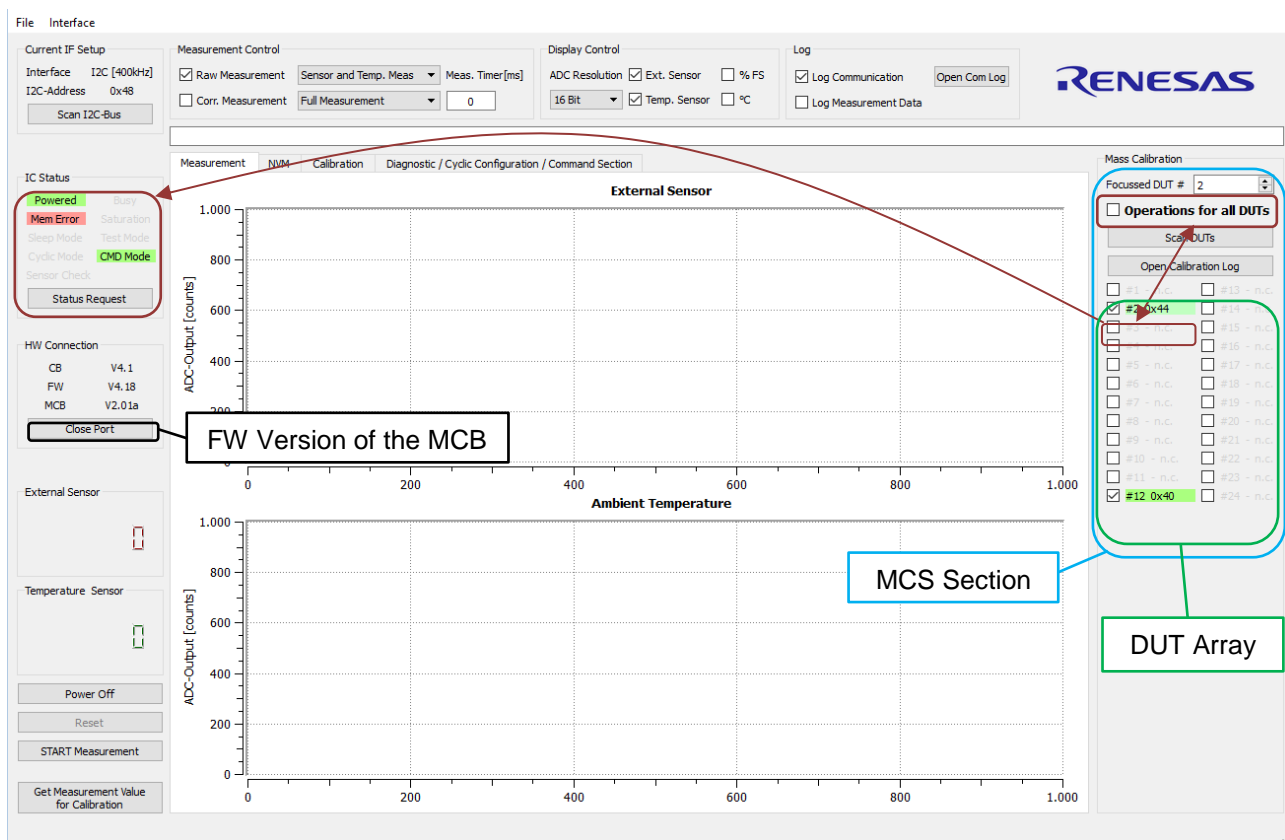

Figure 2. Initial GUI Appearance with Detected MCB
Start the Evaluation SW only after the Communication Board is connected to a master PC (Personal Computer) via Universal Serial Bus (USB) and an MCB is connected to the CB at 50-pin connector. If all electrical and SW requirements are met, the SW detects the MCB and the GUI appears as shown in Figure 2.
This is the default mode at GUI opening. Almost all functionalities and button actions are available when the Evaluation Board is used with a single ZSSC3240 device. Every user triggered interaction is applied to the focused DUT, which is displayed in the *Mass Calibration* (MC) section of the GUI, see Figure 2.